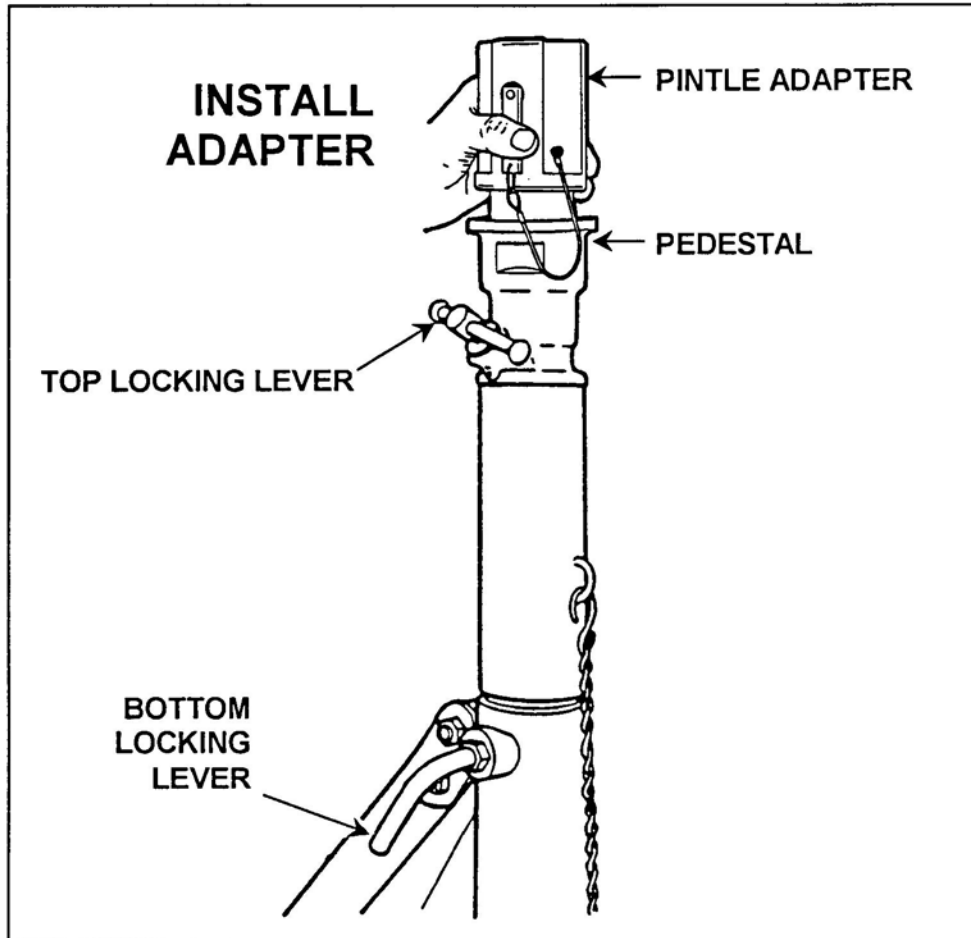

Figure 2. Installation of pintle adapter on M4 pedestal.
- (1) Using a 3/8-inch, open-ended wrench, loosen the HMMWV pedestal and the pintle adapter lock screws. Turn all four screws counterclockwise until the threaded ends are flush with the pedestal's inner wall.
- (2) Insert the pintle adapter assembly into the HMMWV pedestal. Tighten the lock screws. Using a 3/8-inch, open-ended wrench, turn the screws clockwise to tighten them. Pull upward on the pintle adapter to make sure it is secure.
- (3) Remove the pintle adapter quick release pin. Press in on the pin's quick release button, and pull the pin from the pintle adapter.
- b. M4 pedestal (Figure 2).